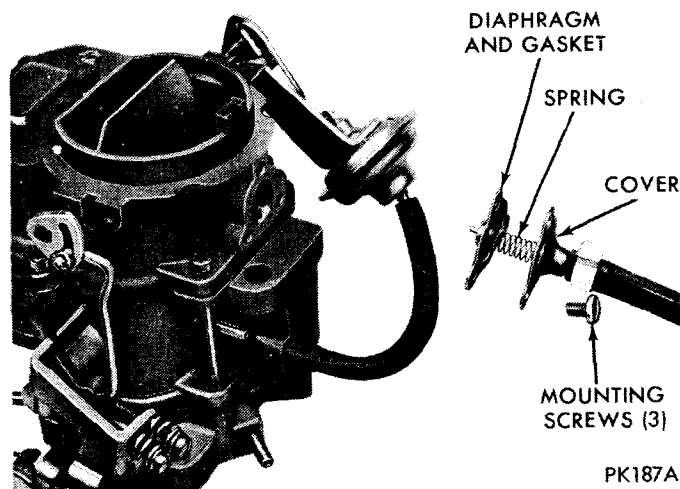
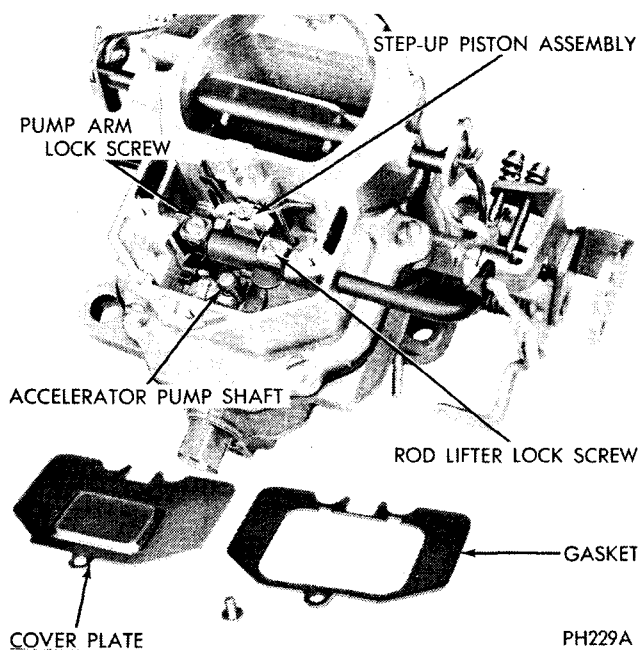

Fig. 7—Removing Idle Enrichment Valve Assembly
Fig. 8—Removing Step-Up Piston Cover Plate
(1) Place carburetor on repair stand to protect throttle valves from damage and to provide a stable base for working.
(2) Remove idle enrichment vacuum diaphragm, vacuum nipple and diaphragm return spring by removing three screws. (Fig. 7).
(3) Remove retaining clip from accelerator pump arm link and remove link.
(4) Remove step-up piston cover plate and gasket from top of air horn. (Fig. 8).